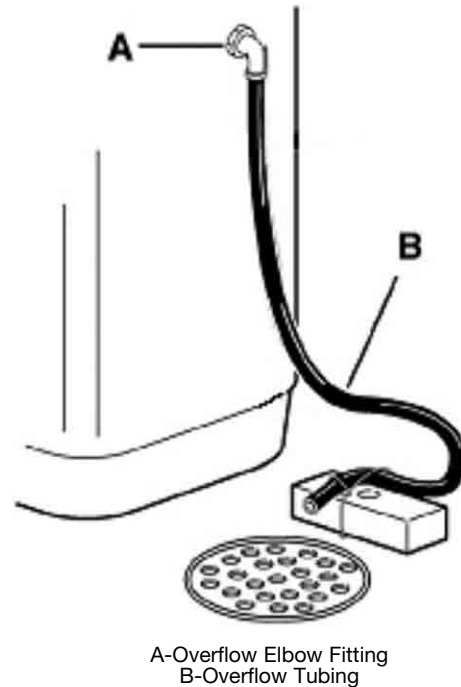

Figure 3
11. Take the other half of the cut tubing and attach it to the overflow adapter elbow located on the side of the brine tank. Locate the other end of the hose at the drain point, leaving an air gap as shown in Figure 3.